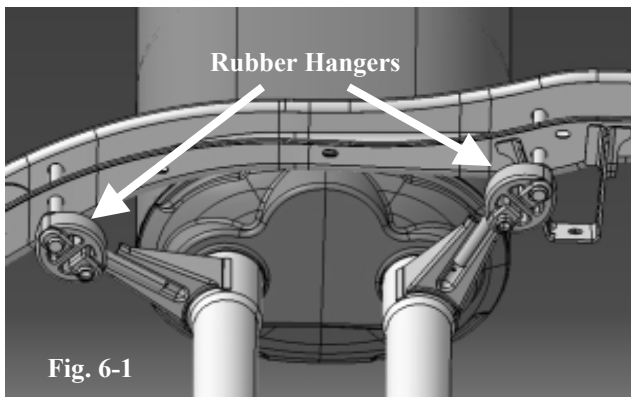

Fig. 6-1
- (a) Attach the two hanger brackets of the TRD center muffler assembly front pipes to the existing rubber hangers and rods on the vehicle frame. (Fig. 6-1)